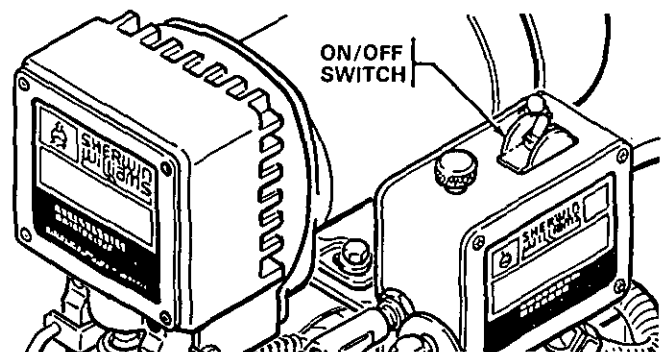

Fig 3
- a. Be sure the ON/OFF switch is OFF. Refer to Fig 3.